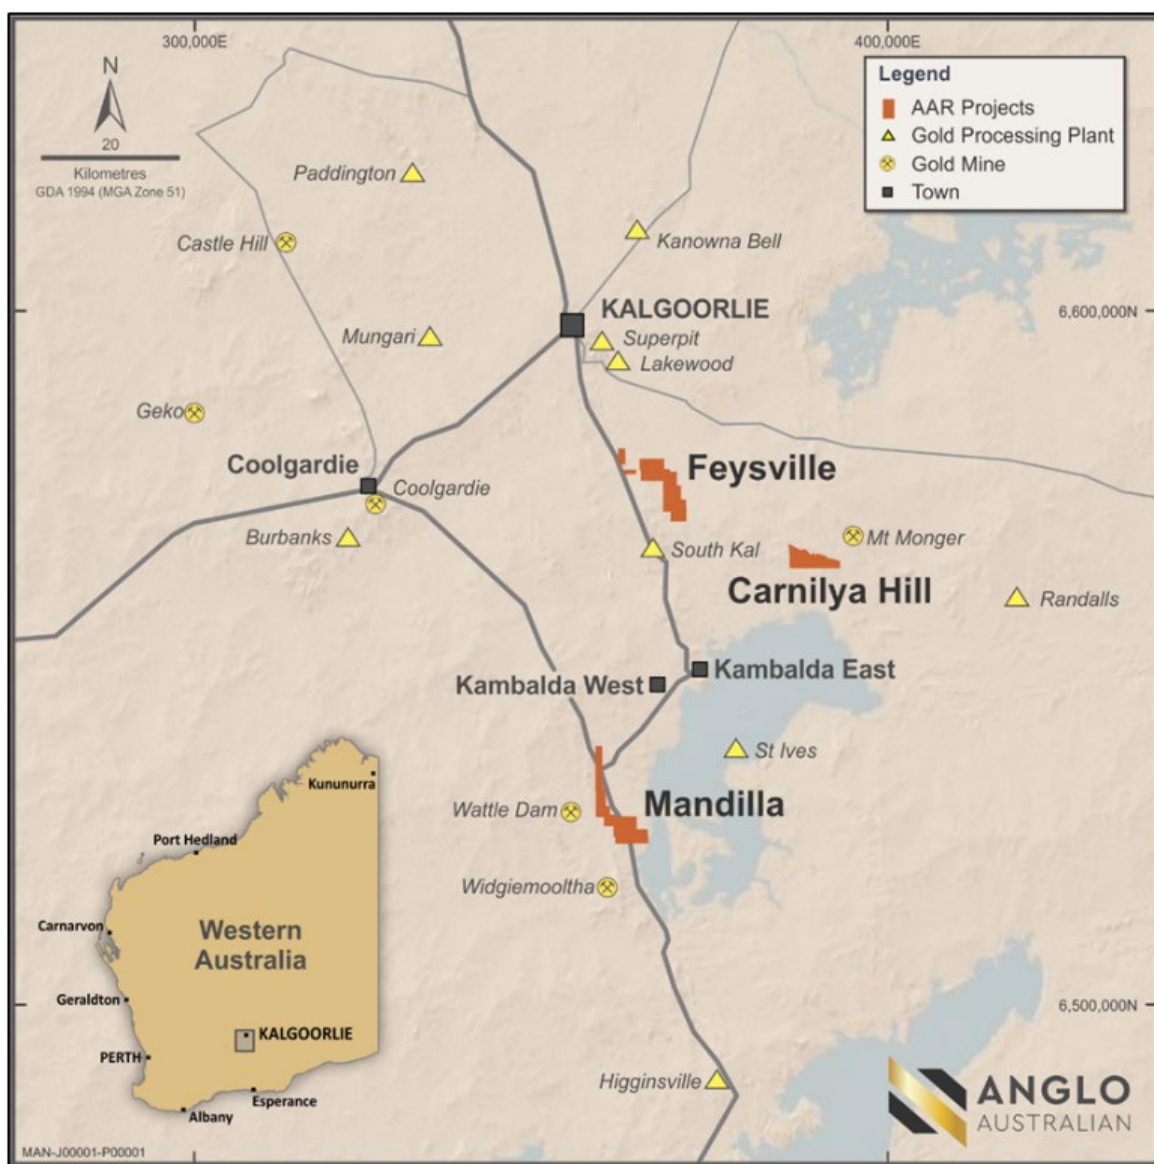

Figure 1 – Mandilla Gold Project location map
Anglo Australian Resources NL (ASX: AAR) (**AAR** or the **Company**) is pleased to report recently received assay results from the new program of reverse circulation (RC) drilling currently underway at its 100%-owned Mandilla Gold Project (**Mandilla**), located 70km south of Kalgoorlie in Western Australia (Figure 1).